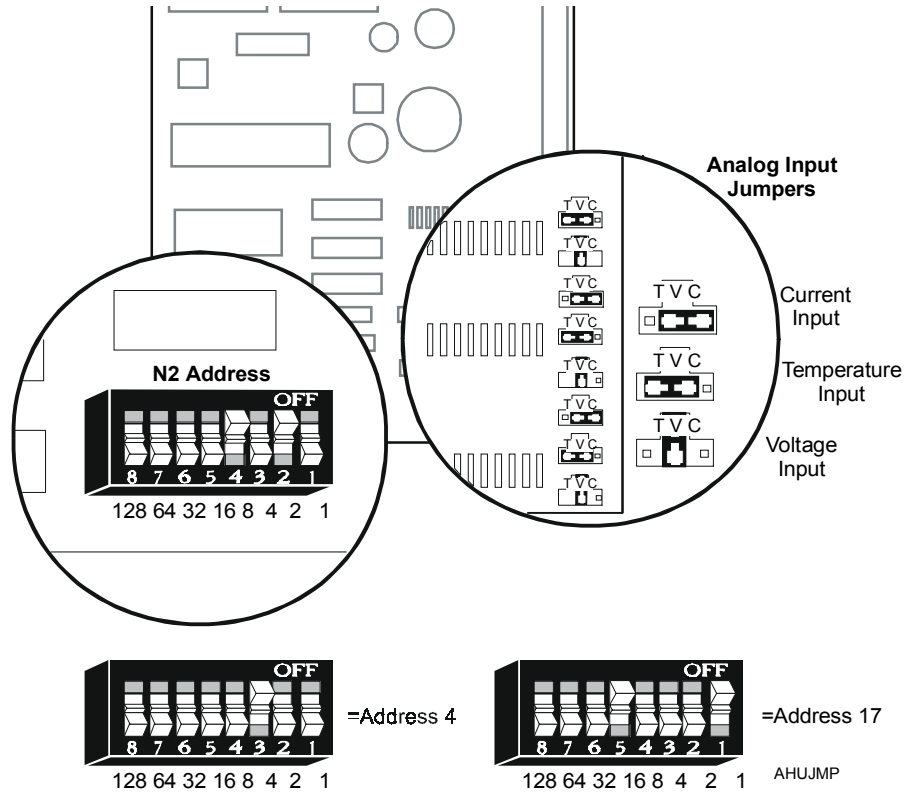

Figure 8: N2 Address Switches
The eight Analog Input (AI) terminals, their power supply, and their common points occupy Positions 43 through 56 of the terminal strip. These inputs may be of three types: resistive, voltage, or current. The AHU102 Logic Board processes and controls the configured control strategy. It reads the analog inputs through the analog input jumpers located on the lower right of the board. The type of analog input is selected through these jumpers (Figure 8). Table 6 shows each configuration.
Figure 8 shows N2 hardware address switches and AI jumper positions. Use these switches to set the N2 Bus address. Boards without this switch must have the N2 address set through the HVAC PRO for Windows Configuration Tool.